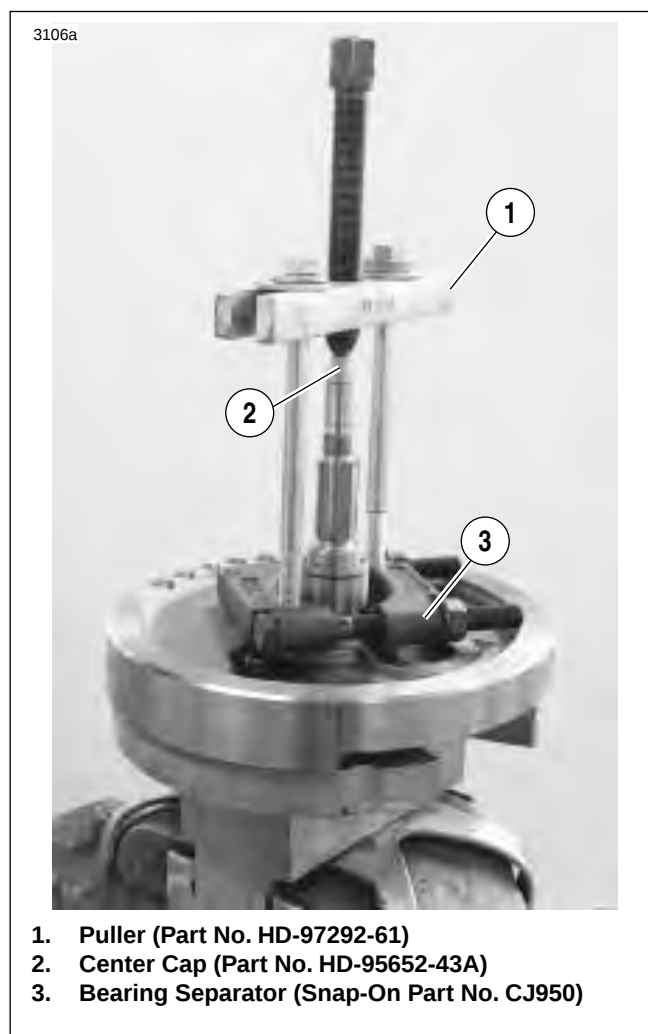

Figure 3-83. Pulling Pinion Shaft Inner Race (Typical)
See Figure 3-83. To remove pinion shaft inner race, use TWO CLAW PULLER (Part No. HD-97292-61), CENTER CAP (Part HD-95652-43A), and BEARING SEPARATOR (SNAP-ON TOOLS Stock No. CJ950). Apply heat to race to aid removal. Four sizes of pinion bearings are available. Pinion bearing selection at the factory, during engine rebuild, or replacement of crankcase set or flywheel assembly is based on the largest measured outside diameter (OD) of the inner race and the smallest measured inside diameter (ID) of the outer race (crankcase bushing). A running clearance of 0.0002-0.0008 in. (0.0051-0.0203 mm) is established during crankcase set or flywheel assembly replacement and engine rebuild.
7. See Figure 3-83. Pull inner race from pinion shaft using TWO CLAW PULLER (Part No. HD-97292-61), CENTER CAP (Part No. HD-95652-43A), and BEARING SEPARATOR (SNAP-ON TOOLS Stock No. CJ950). Apply heat to race to aid removal.